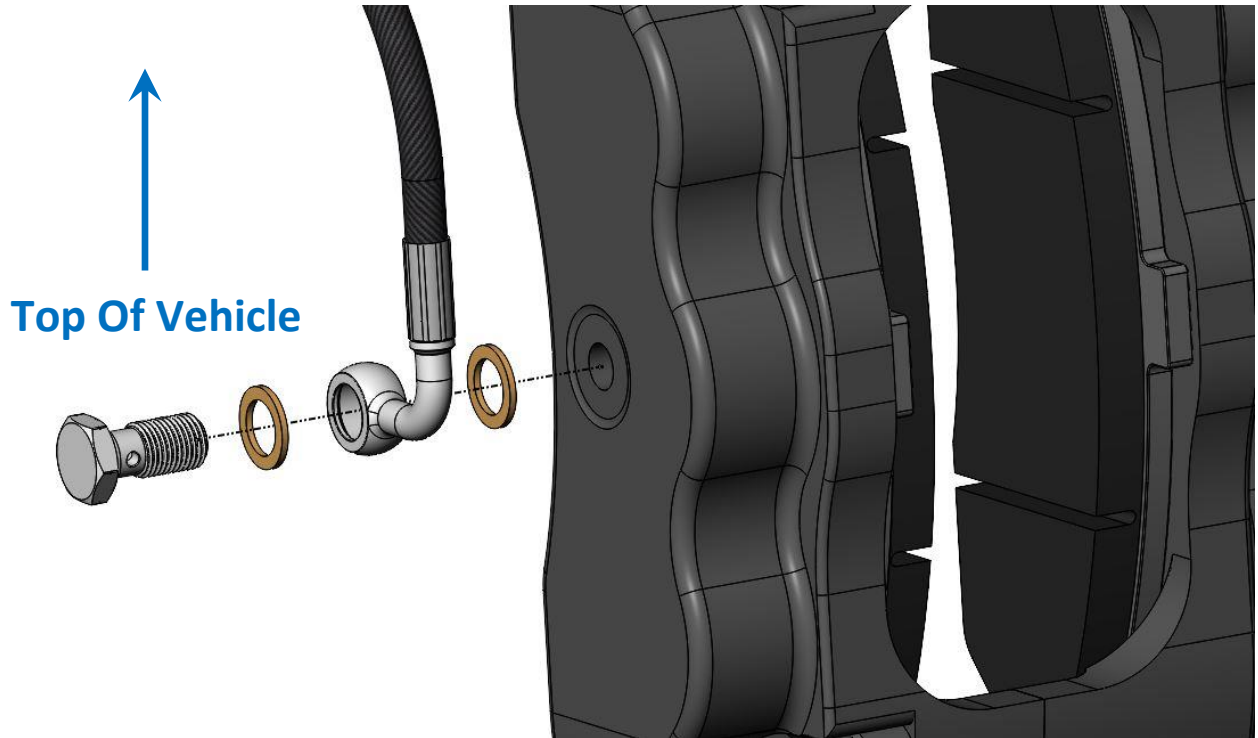

Figure 6a – Stainless Steel Braided Hose Installation (RH Shown)
11. Install the Stainless Steel braided hose using one copper crush washer on each side of the banjo fitting. When installed properly the banjo fitting that is crimped onto the hose will point in the upward direction. Secure the opposite end of the hose to the OEM brake line mounting location on the front axle using the supplied the hose lock. Torque the banjo bolt to 20-27 Nm (15-20 ft/lbs). Refer to Figures 6a and 6b below for proper brake hose mounting.